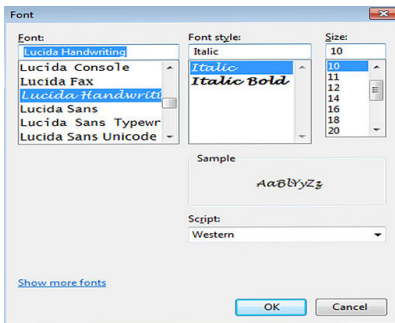

Fig. 95 – defining fonts
- define the font type and size (the 'Font on the printout' button opens a window in which you can modify these settings - Fig. 95);